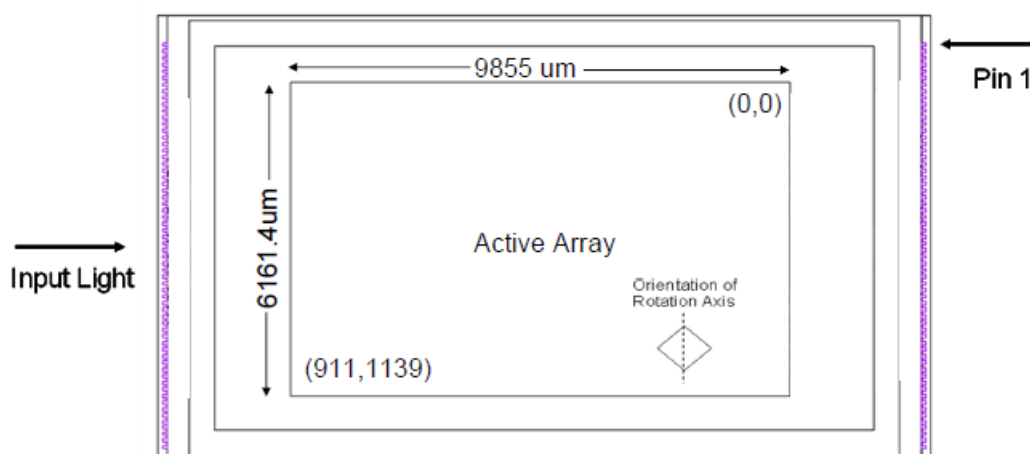

Figure 5. DLP4500 Micromirror Active Area
(1) See Micromirror Array, Pitch, and Hinge-Axis Orientation.
(2) See Micromirror Active Area in Figure 5.
(3) The mirrors that form the array border are hard-wired to tilt in the -12° ("Off") direction once power is applied to the DMD (see Micromirror Array, Pitch, and Hinge-Axis Orientation and Micromirror Landed Positions and Light Paths).